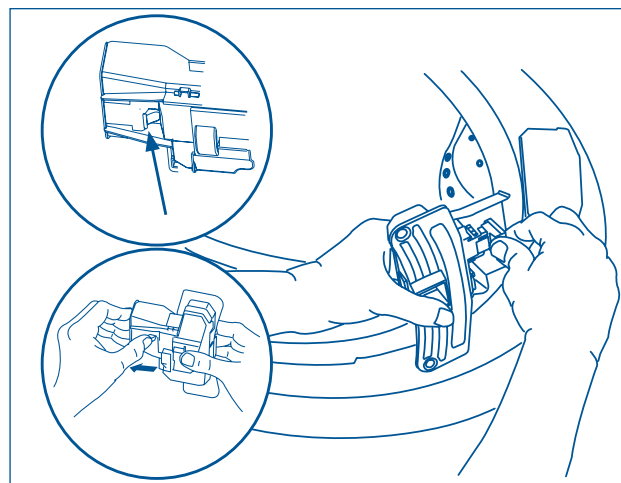

Figure 2-17.
3. Release the harness from the terminal with the small lever on back of the lock. Separate the harness from the lock, allowing the harness to lay outside the front panel. (See Figure 2-17)